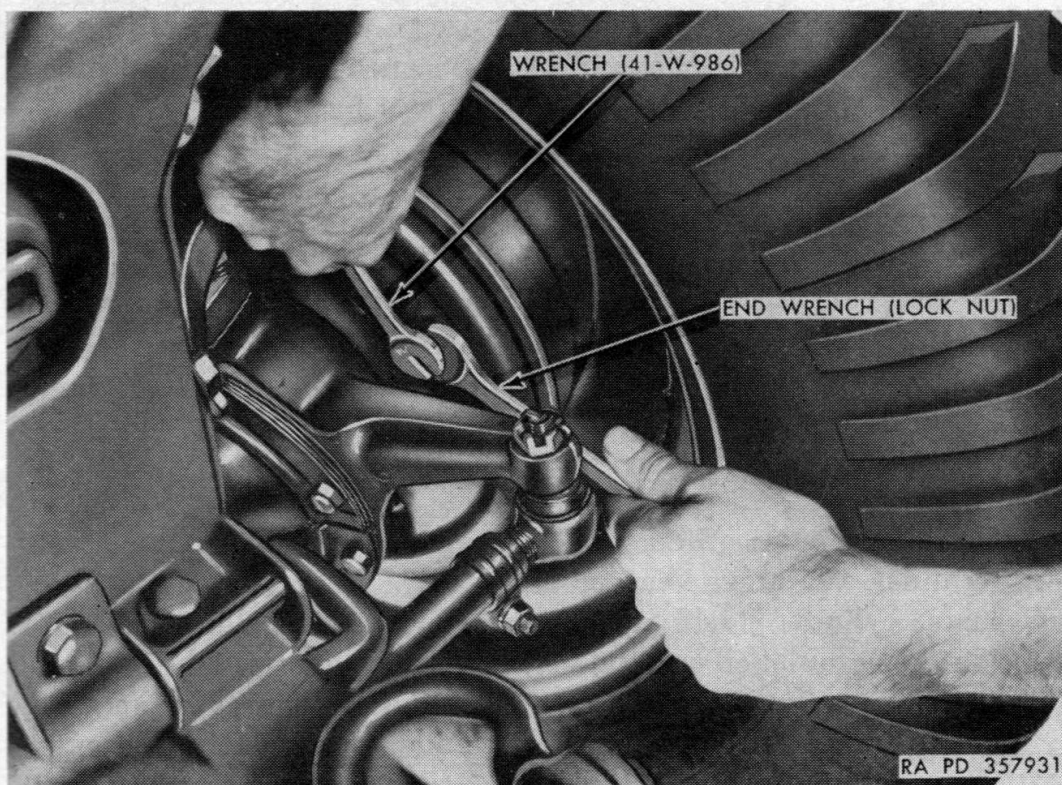

Figure 46. Brake adjustment with wrench—41-W-986.
Loosen eccentric lock nut on forward shoe of one brake (fig. 46). Place wrench—41-W-986 on eccentric so that handle extends up. Rotate wheel, and turn wrench handle toward wheel rim, or forward, until brake drags. Turn wrench in opposite direction until wheel turns freely. Hold wrench on eccentric, and tighten lock nut. Loosen eccentric lock nut on reverse shoe. Place wrench on eccentric with handle up. Rotate wheel, and turn wrench toward wheel rim, or to the rear, until brake drags. Turn wrench in opposite direction until wheel turns freely. Hold wrench on eccentric, and tighten lock nut. Make the same adjustment on the other wheel brakes. Replenish brake fluid in master cylinder (par. 179). Lower vehicle to floor. Apply brake pedal to test brakes.
c. REMOVAL OF BRAKE SHOES AND LININGS. Raise vehicle. Remove wheel hubs (par. 158b). Loosen eccentric lock nuts (fig. 46). Turn eccentric so that low side is against the shoes. Install brake cylinder clamp to hold pistons in place. Remove brake shoe return spring. Remove anchor pin nuts, lock washers, anchor pins, and anchor pin plate from backing plate. Remove brake shoes. Remove brake shoe anchor pin cam. Inspect exterior of wheel brake cylinder for leakage of brake fluid. If leakage is apparent, replace cylinder assembly (par. 180).